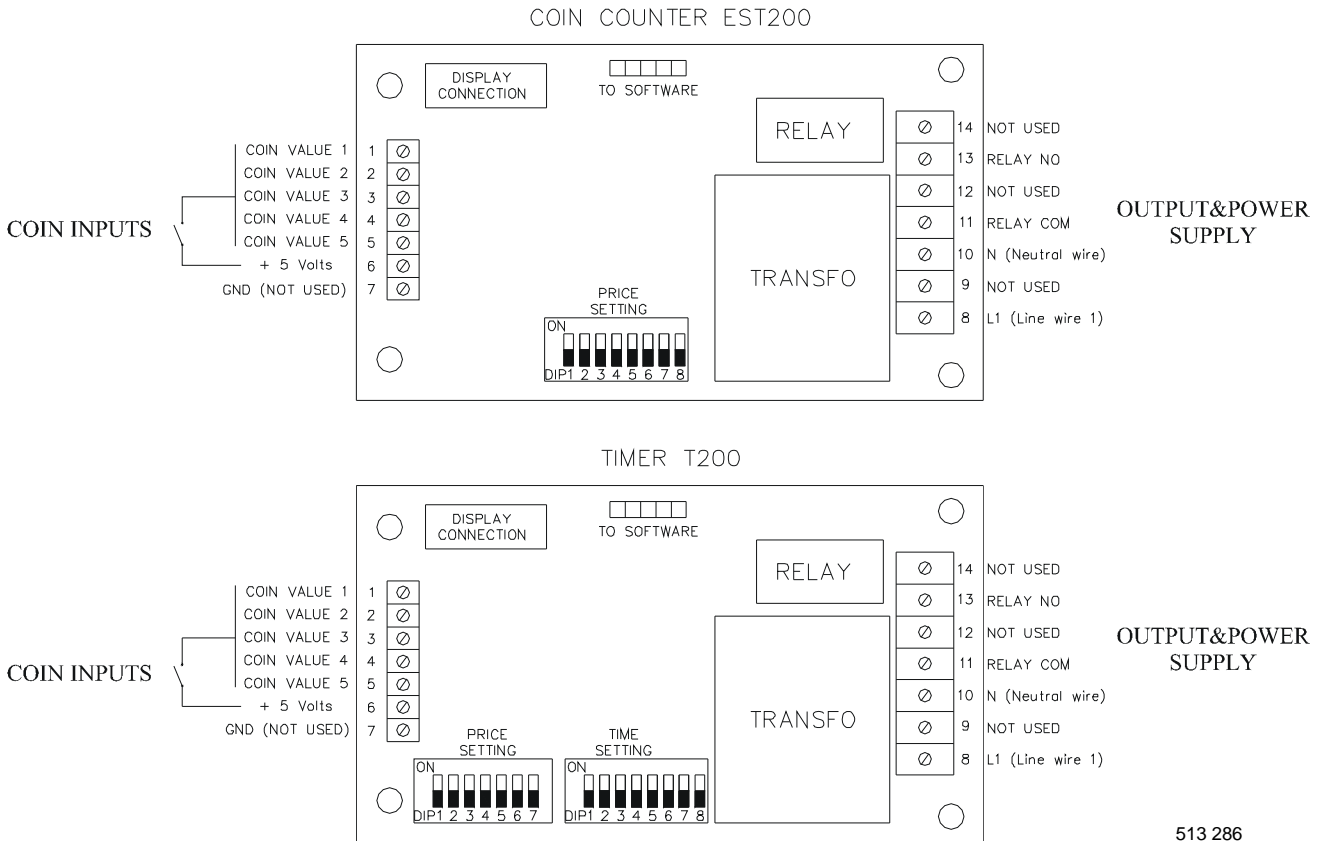

Fig.4. Coin counter EST200 and Timer T200
2. By changes, connect the coin switches to the electronic board (fig.4., COIN VALUE 1,2, ..., +5 Volts) (See chapter 5.1.).
The coin counter EST200 and timer T200 is a electronic board for one price with five inputs and one output. There are five coin inputs available and have *standard* the following coin values (see also fig.4.):
Each DIP switch of the "PRICE SETTING" switch (See fig.4.) has a certain value, as mentioned in the following table:
Each DIP switch of the "PRICE SETTING" (See fig.4.) has a certain value, as mentioned in 5.2 coin counter.
The time to set on the "TIME SETTING" switch (see fig.4.) is : 4